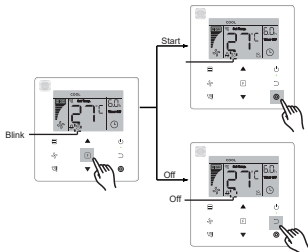

Figure 6.13
- Turn on/off the **"Silent"** function: press **[F]** (Function) button to switch to the **"Silent"** function ("**🔇**" blinks), and press **[Enter]** (Confirm) button to turn on the function or **[Esc]** (Cancel) button to turn off the function (see Figure 6.13).